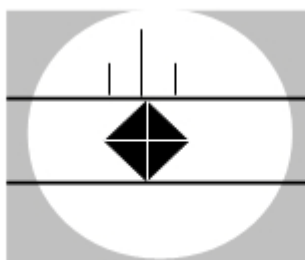

Figure 5-12 Move Bottom Filar Line to Bottom Tip
10. Turn the measuring knob to move the bottom filar line to the bottom tip as Figure 5-12 illustrates.